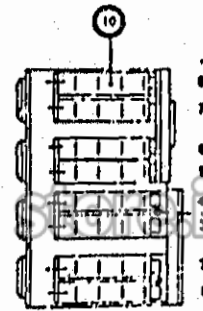

Fig. 27
2. *Insulating strips.* When replacing contacts, it is recommended that the insulating strips be replaced also. Using a screwdriver, remove two fasteners (4) retaining insulating strip (3). Replace strips using new fasteners.
- C. Auxiliary Contact Block (Fig. 27). When removing contact blocks (1-4), place breaker in closed position before loosening contact cradle bolt V3. Slide cradle free of V3 and remove contact assemblies. To replace contact blocks, reverse procedure making sure wires are returned to their original positions. The same procedure is followed for removing or replacing contact blocks 5-8, except the breaker is placed in the open position.